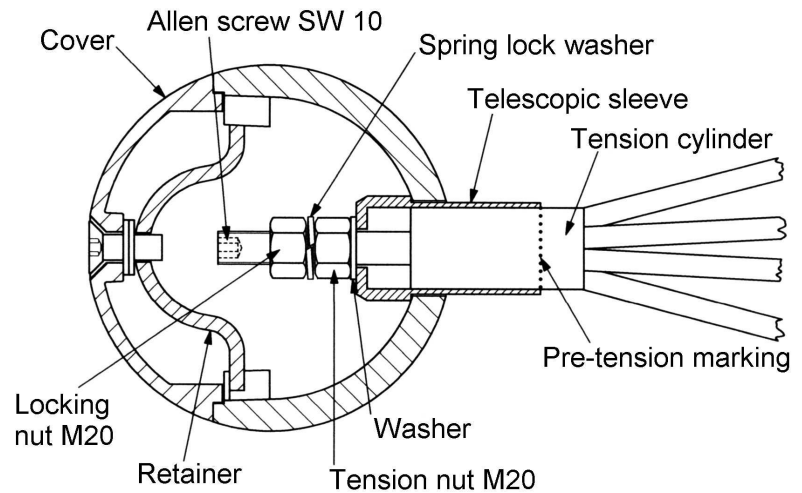

Figure 16
Firstly the aligned connection on the hollow ball **K29** is to be solidly secured. Tensioning of the space net begins on the hollow balls of **K31 and K32** which are screwed to the locking nut (**Figure 17**) using the special spanner supplied. After doing this tensioning is made on **K30** hollow balls up to the marking (**Figure 16**). Finally, the space net must be under a **tension having an even strength throughout**.
After tensioning, the tension nuts are to be locked on all **K30 knot points** using the locked nuts and spring lock washer provided (M20 Size 32). **In order to tighten the locking nut, the Allen key Size 10 must be inserted into the M20 screw and held (Figure 16)**. The locking nuts Size 30 (**Figure 18**) are to be inspected once again to ensure that they are solidly secure at the **K31 and K32 knot points**. Finally all knot points from **K29 to K32** are to be closed by screwing the knots with the prepared covers via a clamping screw (**Figure 16**). In doing this please ensure that the cover is positioned evenly so that our company logo is readable. Thank you.
- The first re-tensioning must be carried out after one to two weeks. Re-tensioning is made via the tension nuts (M 20) in the hollow balls. Firstly the **balls K31 and K32** are re-tensioned. After removing the cover using an Allen key Size 10 and loosening the locking nut M20 Size 30 (Figure 17) on the outside of the ball, the inside tension nut Size 30 is re-tensioned with the box spanner. It is imperative that the **locking nuts** be solidly tightened **after re-tensioning**. After this, further re-tensioning is made at the **K30 knots** and should be carried out evenly. In doing this the inside locking nut M20 Size 32 is loosened after removing the cover and re-tensioned at the tension nut M20 Size 32 **beyond the pre-tension marking** using the special box spanner supplied. After re-tensioning, the tension nuts on the K30 knots must be **locked again** with the locking nuts. **Please note to the spring lock washer between the nuts. In order to loosen and secure the tension nut and locking nut M20 Size 32, the bolt M20 can be held with an Allan key Size 10 (Figure 16).** Finally the open hollow ball is once again closed with the cover. Please ensure that the cover is placed evenly so that our company logo is readable. Thank you.